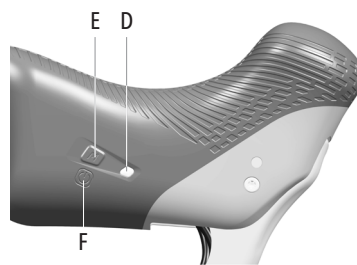

Fig.3
- D - Communication LEDs (Fig.3)
- E - Ergopower MODE button (Fig.3)
- F - Power button (Fig.3)